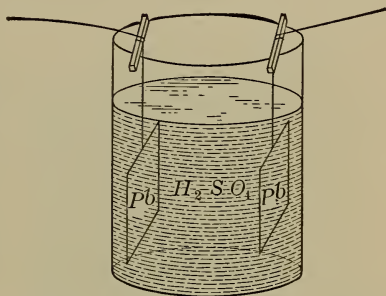

FIGURE 233.—A DIAGRAM OF A WET LEAD STORAGE BATTERY.
**263. The Lead Wet Storage-cell.** — A storage-cell may be made by using two *lead* plates for electrodes and dilute  $H_2SO_4$  for an electrolyte. (Figure 233.)